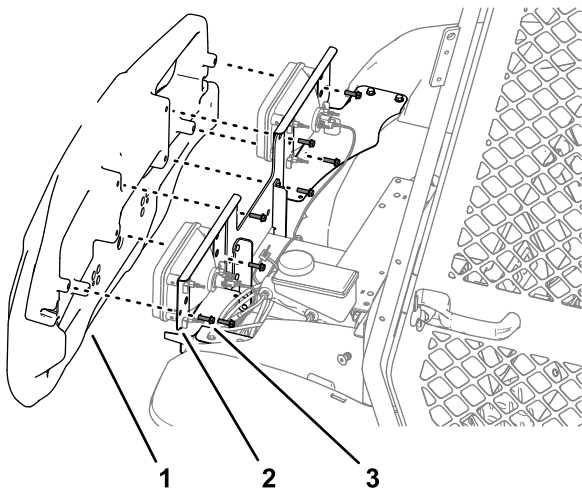

Figure 42
1. While supporting the bumper, remove the 8 flange-head bolts that secure the bumper to the bumper mounts and headlight brackets (Figure 42)